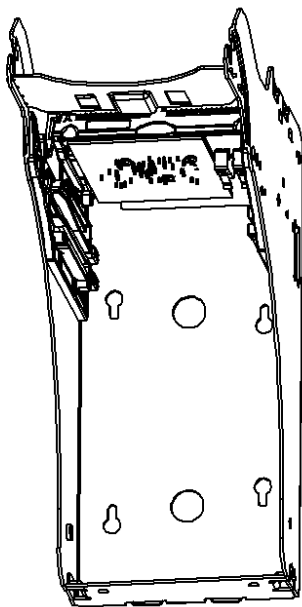

fig.2A
4. Reinstall the Interface/Antenna PCB back into the chassis as shown in fig.2A